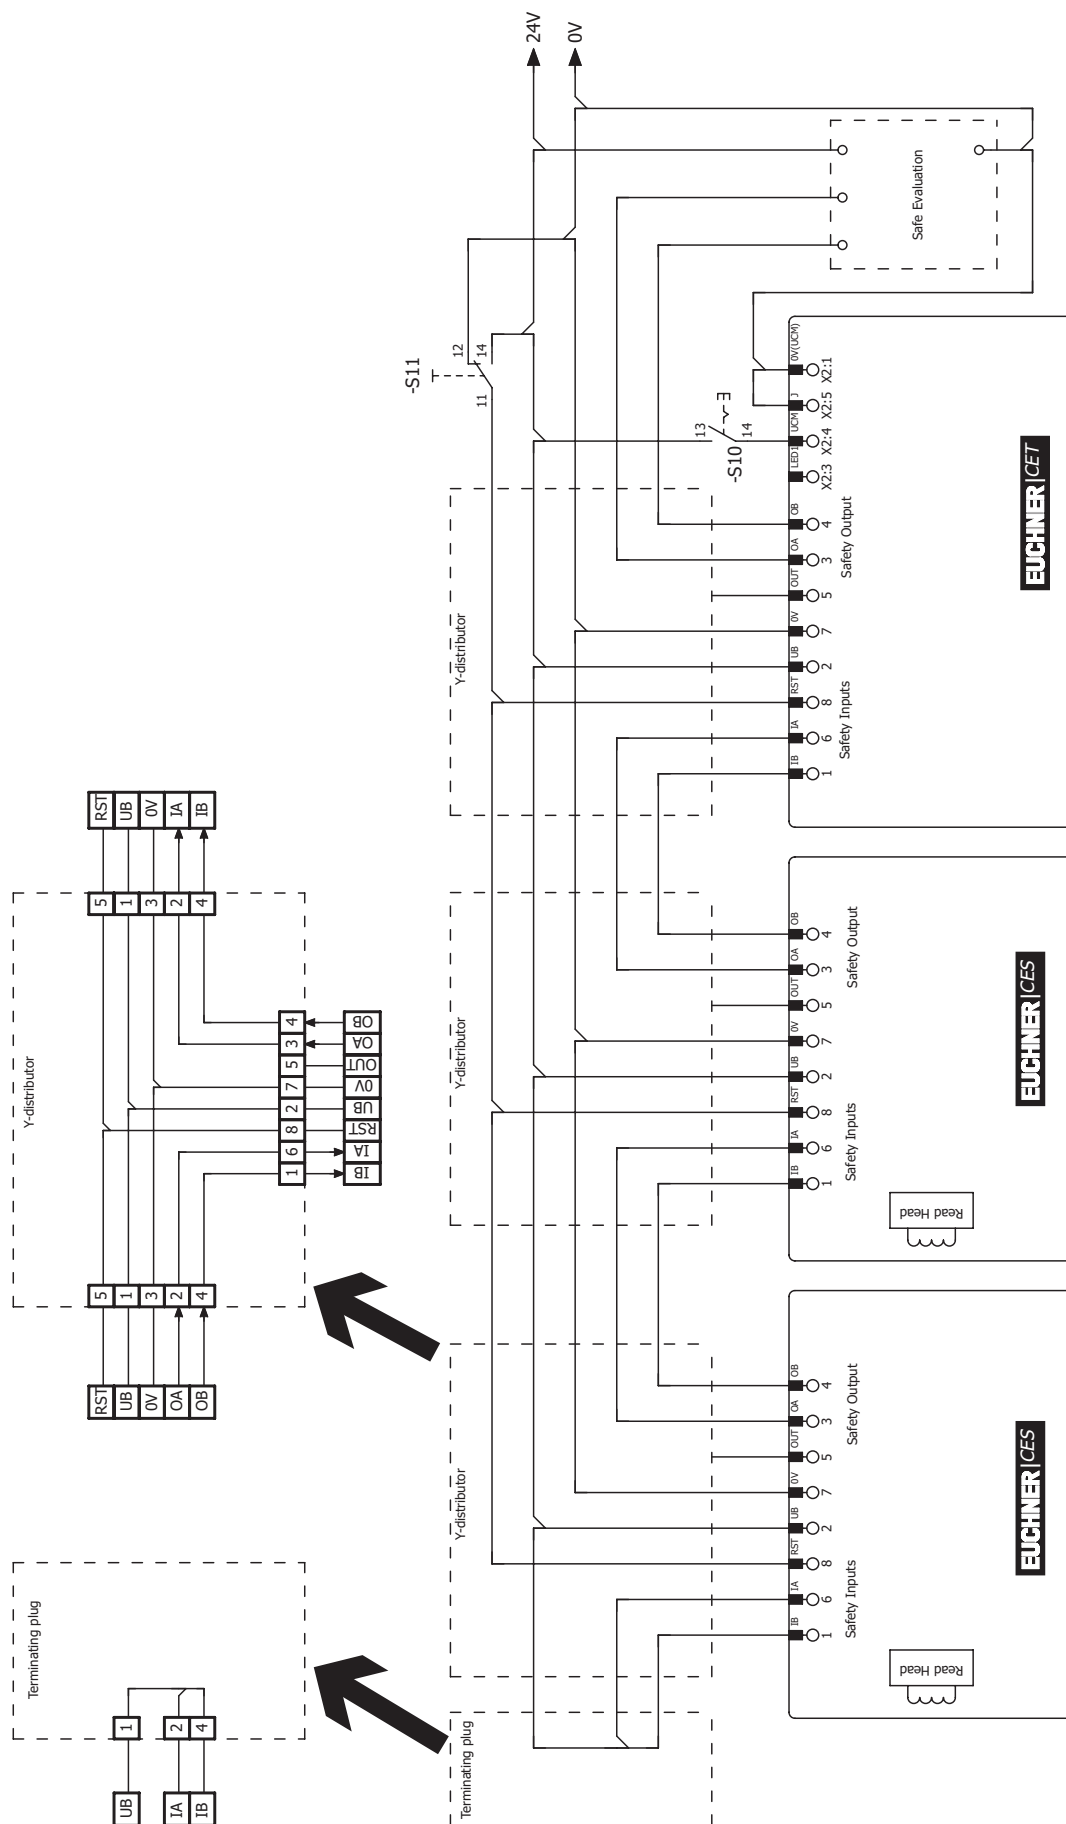

Fig. 12: Connection example for series connection with reset and changeover switch.
The subsystem CET-AR complies with PL e in accordance with EN 13849-1. To integrate the subsystem in a category 3 or 4 structure, it is necessary to monitor the downstream load (the feedback loop must be monitored). On the use of the CET-AR with feedback loop, this switch must be in the last position in the switch chain (see Figure 12). These examples show only an excerpt that is relevant for connection of the CET system. The example illustrated here does not show complete system planning. The user is responsible for safe integration in the overall system.
- A common signal must be used for all switches in the chain. This can be a changeover switch or the output of a control system. A button is not suitable because Reset must always be connected to GND during operation (see switch S11 in Figure 12).
Input RST must be connected as shown in Figure 12 to permit this.